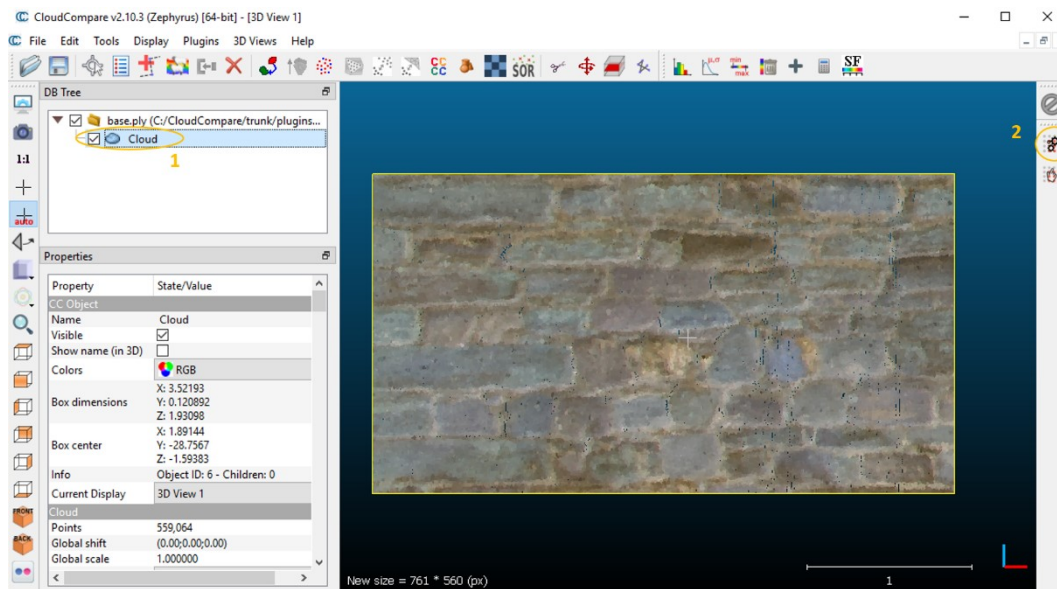

Figure 1: Point cloud of a masonry wall loaded in CloudCompare
2. Then, select the point cloud. This can be done as illustrated in Figure 1, by clicking on the cloud's name in the *DB tree* window (labelled 1 in Figure 1). If done correctly, a yellow bounding box should appear in the 3D viewer around the selected point cloud, meaning that the specific cloud is selected.
3. Click on the automatic segmentation plugin icon  (labelled 2 in Figure 1) to run the segmentation process.
2. Then, select the point cloud. This can be done as illustrated in Figure 1, by clicking on the cloud’s name in the *DB tree* window. If done correctly, a yellow bounding box should appear in the 3D viewer around the selected point cloud, meaning that the specific cloud is selected.